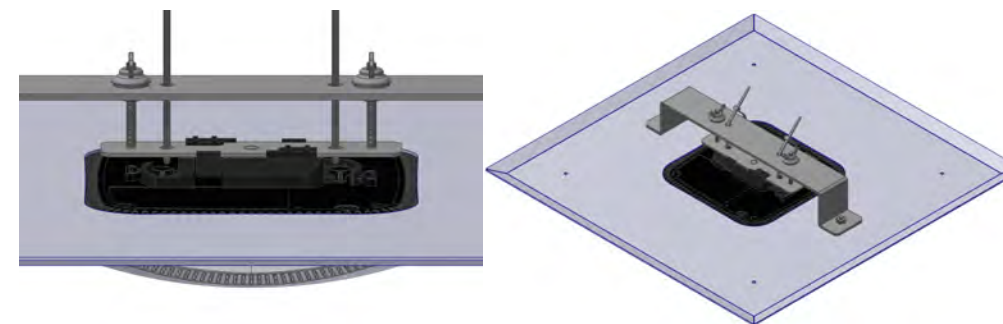

Figure 4 - Attaching Wire Ties
**Step 5** – For added security, attach wire ties to the two inner holes of the bracket and the t-bar mount. Make sure securely fasten the wire ties in place (Figure 4).